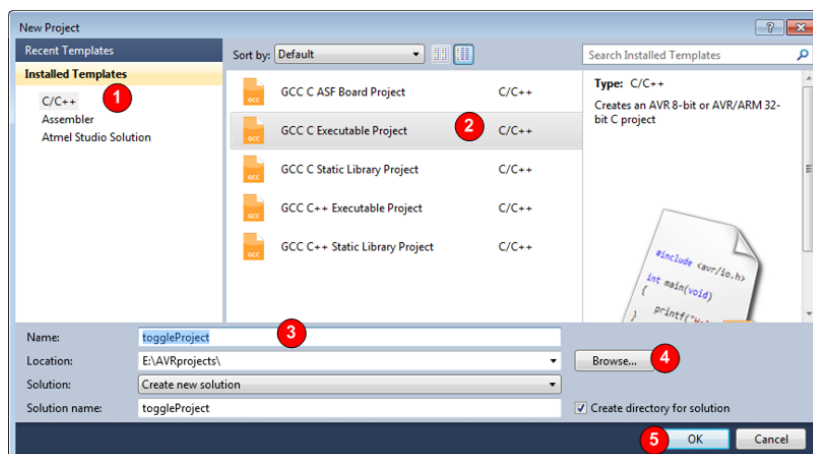

FIG 2. Select project type
- In the opened dialog (Figure 2)